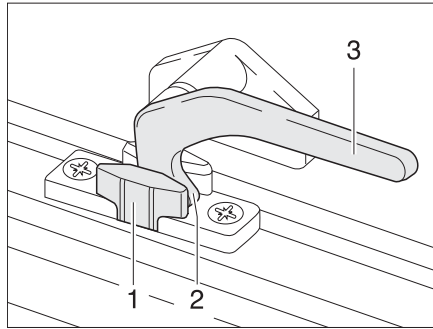

Fig. 72 Catch lever in the "continuous ventilation" position
- "Continuous ventilation" (Fig. 72)
- Turn the catch lever (Fig. 72,3) a quarter turn towards the centre of the window.
- Turn the catch lever a quarter turn towards the window frame. The locking catch (Fig. 72,2) has to be moved into the recess of window catch (Fig. 72,1).